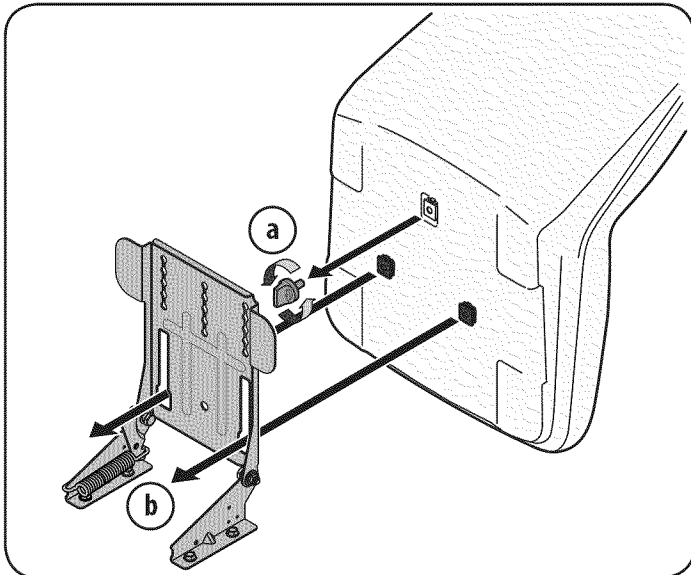

Figure 4
1. As already instructed, remove the seat adjustment knob installed by the factory in the bottom of the seat. See “a” in Figure 4.
2. Align the seat over the seat pivot bracket as shown in Figure 4 and fit the seat onto the pivot bracket inserting the two tabs on the seat bottom into the slots on the pivot bracket.